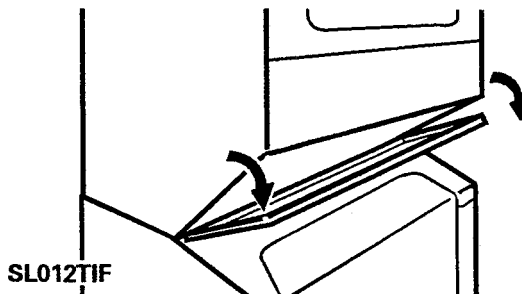

Figure 2-2
3. Unlock the service lock and roll the top of the access panel toward you and lift away (*Figure 2-2*).